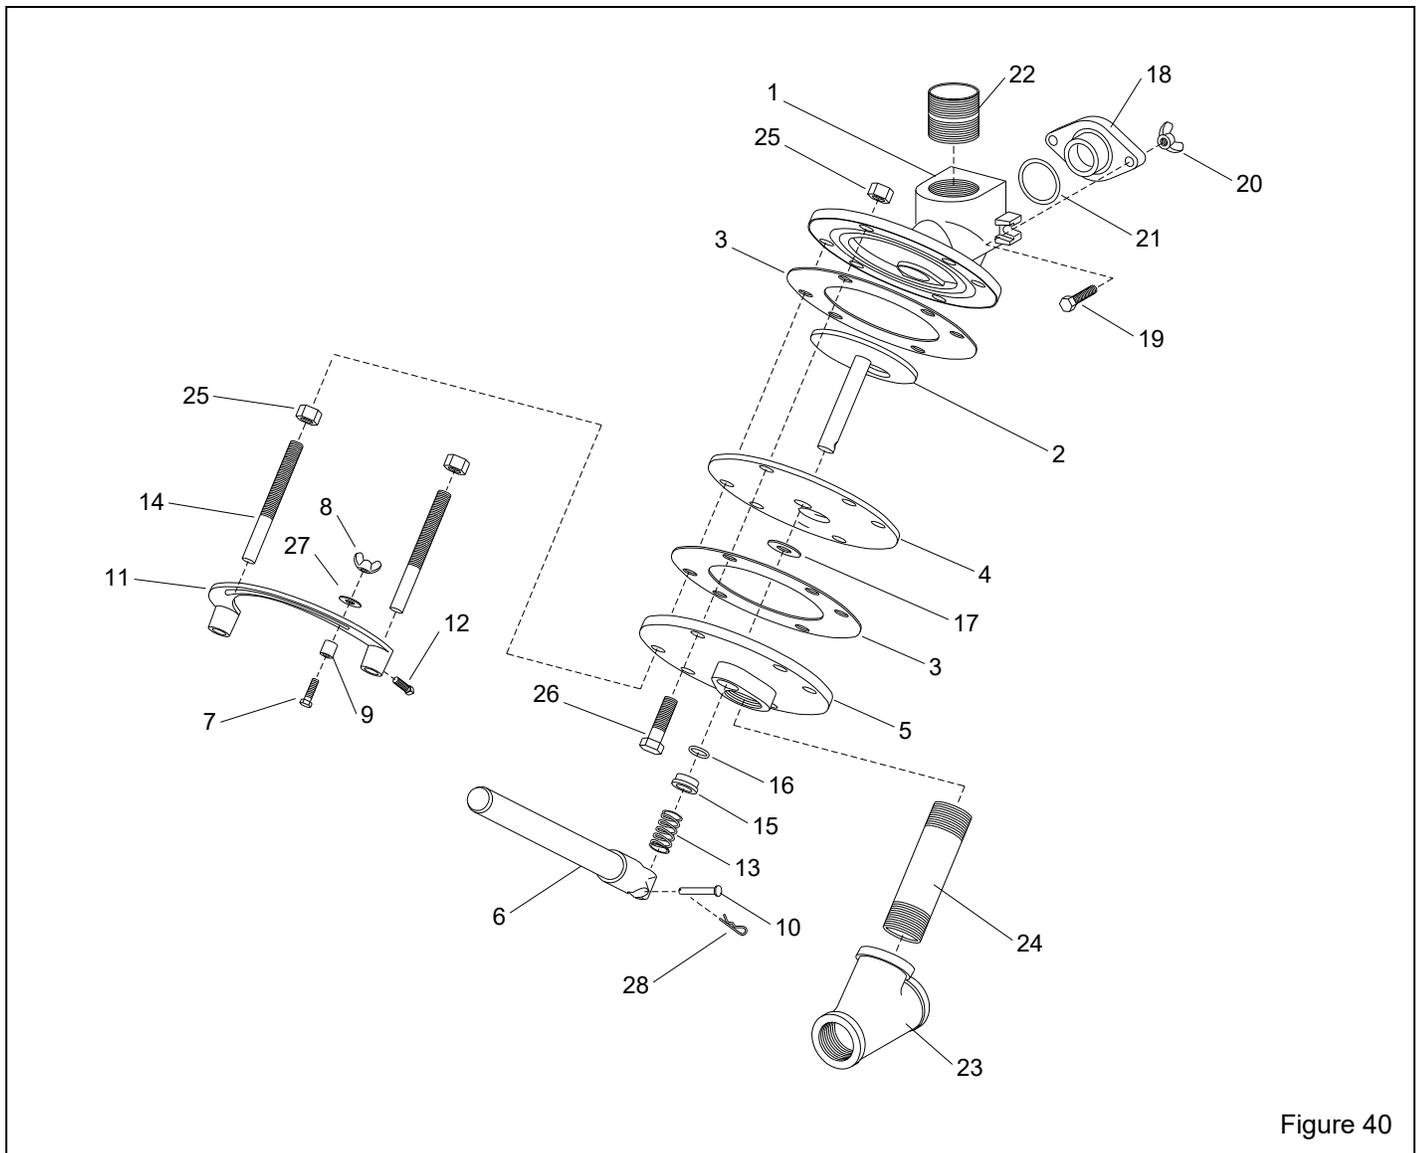

Figure 40
9.8 FSV Media Metering Valve – Figure 40